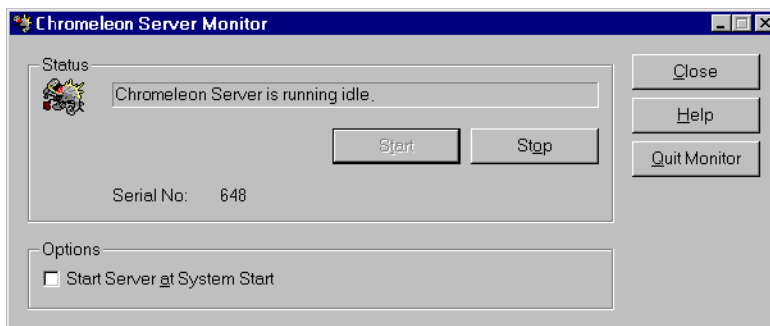

Figure B-4. Server Running
5. Check the Server Monitor status. It should now display “Chromeleon Server is running idle.” (see Figure B-4).